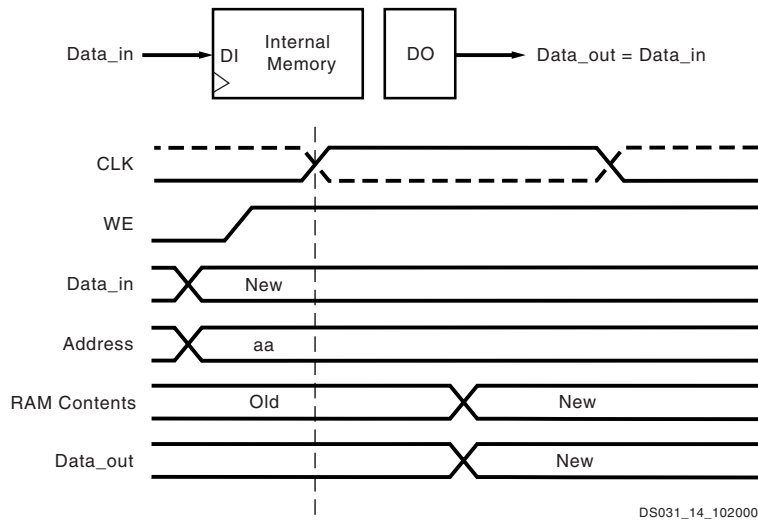

Figure 32: WRITE\_FIRST Mode
The WRITE\_FIRST option is a transparent mode. The same clock edge that writes the data input (DI) into the memory also transfers DI into the output registers DO as shown in Figure 32.